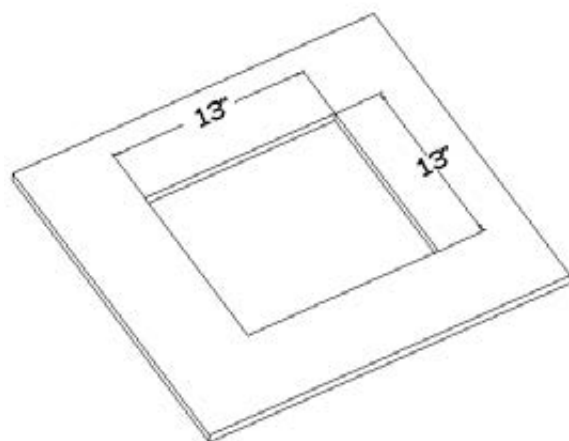

Figure 1 - Cutting ceiling tile.
Step 1 - Cut a 13" x 13" opening in the center of a ceiling tile (not included – ref. *Figure 1*).